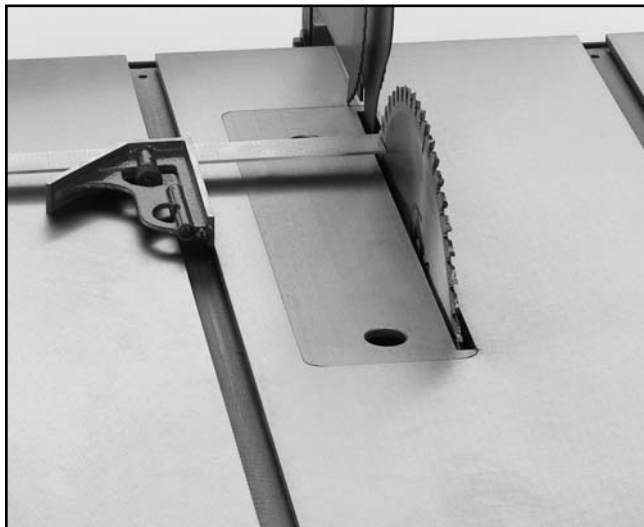

Figure 21. Adjusting blade to miter slot.
2. Use an adjustable square to measure the distance from the mark on the blade to the edge of the miter slot as shown in **Figure 21**.